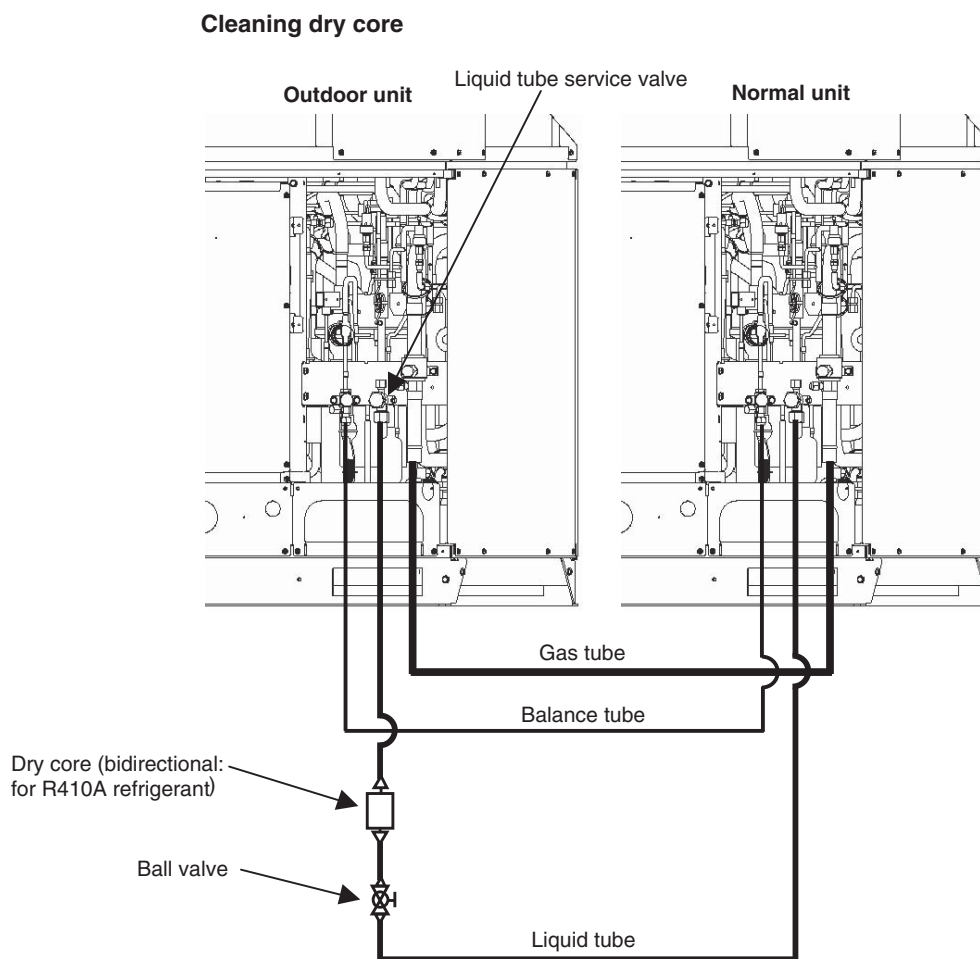

Fig. 21
- (5) As shown in Fig. 21, disconnect the tube that runs from the liquid tube valve to the ball valve on all outdoor units where dry cores will be attached. Then attach the dry cores.
- (6) At all outdoor units where dry cores are attached, pressurize with 478.6 psi of nitrogen from the liquid tube service port and check for leaks.
- (7) After evacuating all nitrogen gas from the tubing, apply vacuum from the liquid tube service port to all outdoor units where dry cores are attached until the pressure is -14.7 psig (5 Torr) or less.
- (8) Fully open the liquid tube valve and ball valve on all outdoor units where dry cores are attached.
- (9) Operate all outdoor units for approximately 3 hours (in either Heating or Cooling mode or mixed Cooling and Heating mode).
- (10) Follow the above procedure, and replace all dry cores with new dry cores.
- (11) Operate all outdoor units for approximately 20 minutes (in either Heating or Cooling mode or mixed Cooling and Heating mode).
- (12) Follow the instructions in “3. Discharging Compressor Oil” and drain a small amount of the oil from the oil separators of all outdoor units where dry cores are attached. Check the color phase, odor, and other characteristics.
- (13) If the results show that dry core cleaning is still necessary (for example, a color phase of 4.0 or higher)*, return to Step 11 and repeat until the results are normal (including a color phase of 3.5 or less)*.
- (1) Refer to “5-2-3. Refrigerant recovery procedures (2) : Indoor unit with no ball valve equipped.” Perform pump down of the refrigerant from all indoor units and inter-unit tubing to the outdoor unit side.
- (2) Cut the liquid (narrow) tube at all outdoor units where dry cores will be attached, then attach the dry cores and ball valves as shown in Fig. 21.
- (3) For the next steps, refer to (6) – (17) in (A) on the previous page.